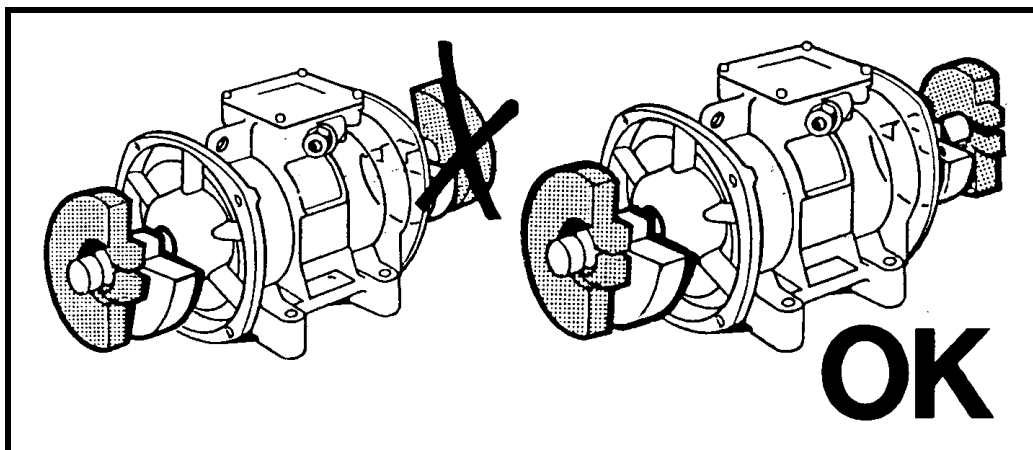

Figure 5. Setting Sets of Eccentric Weights to Mirror Images
7. Repeat steps 1 through 6 for second set of weights. Set both sets of weights to same setting number so they are mirror images, as shown in Figure 5.